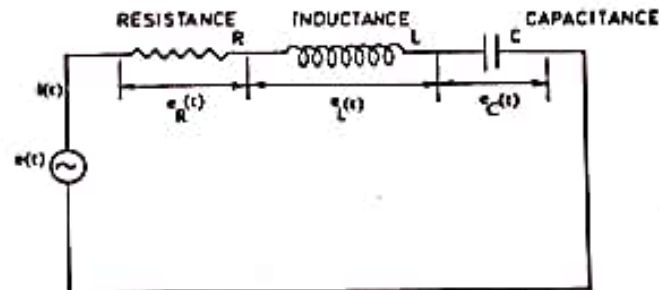

Fig.4.10.
**Q.4.3.** Find system transfer function between the capacitance voltage to the source voltage in the following RLC circuit as shown in Fig.4.10.